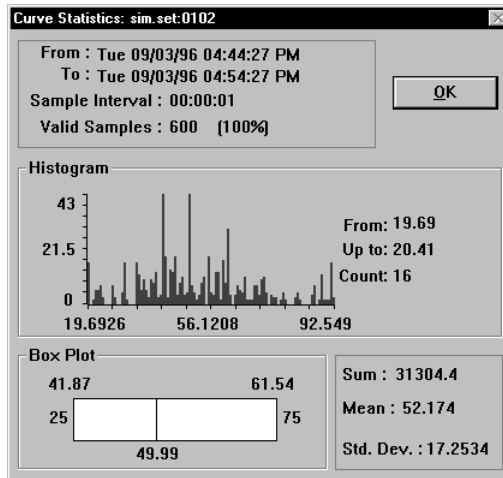

Figure 15.
2. Click on statistics to review information regarding your selected trace (Figure 15).